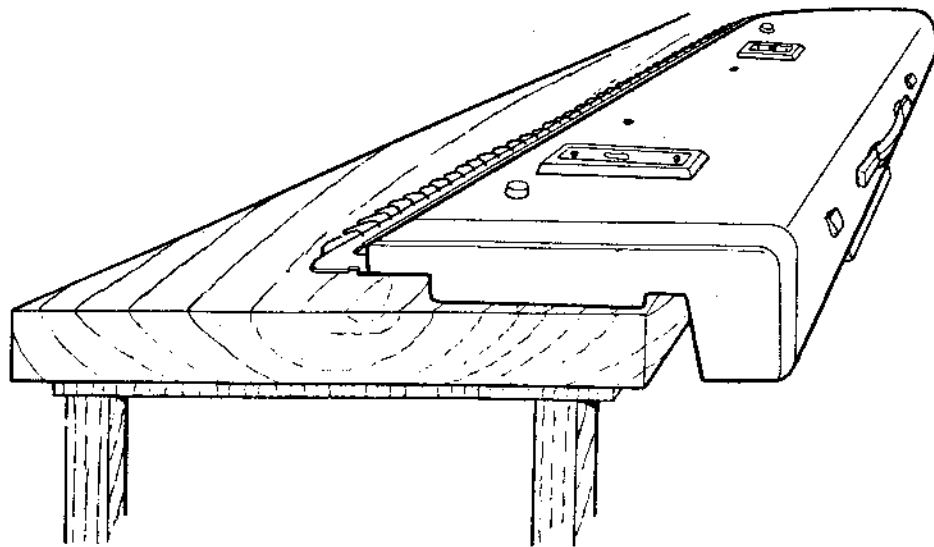
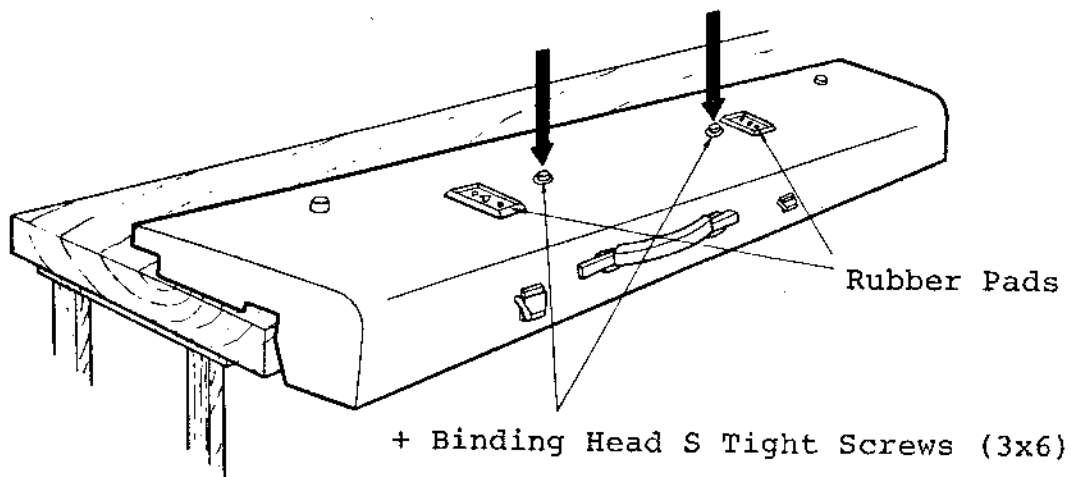

Fig. 19
Fig. 20
1. Turn over the machine body, as shown in Fig. 19, and remove two + Binding Head S Tight Screws (3x6) located between the two Rubber Pads as illustrated in Fig. 20.